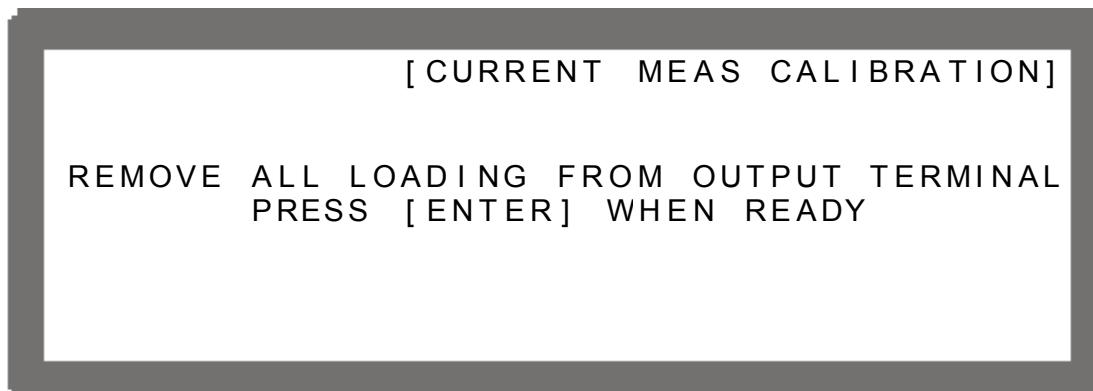

Figure 3-105
2. Press “” to confirm and entering into current calibration options as Figure 3-105 shows.